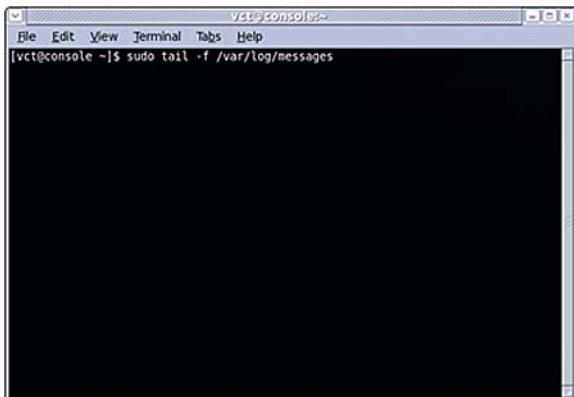

Figure 5-34
5. On the Console computer, select “Application - System Tools - Terminal” to launch a terminal window. (Figure 5-34)